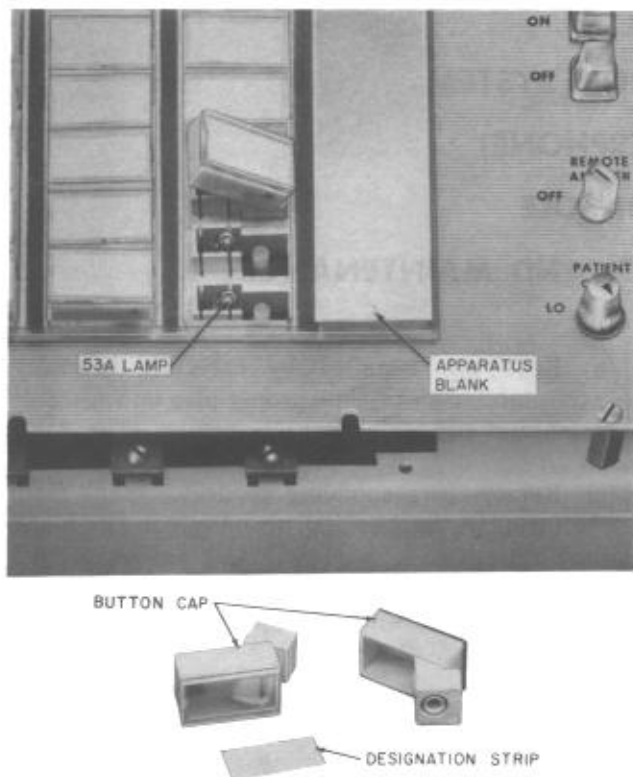

Fig. 2—Button Assembly
(c) Remove corresponding apparatus blank from faceplate by pushing up on apparatus blank until bottom edge is clear. Lift out on bottom of blank to remove. Any unused key spaces should be filled with an apparatus blank in the faceplate (Fig. 2).
(e) P-49K048 designation strips are supplied with the console when equipped with 645A or 645B keys. Each 645C or 645D key is shipped with P-23F056 designation strips. The two strips are not interchangeable. To install designation strips in the 645A or 645B keys (Fig. 2):
- (1) Tilt button cap on 645A or 645B keys by pushing down on right side of key while lifting on left side (Fig. 2).
- (2) On all keys, grasp white sides of button cap between thumb and forefinger directly over button plunger (right half of button). It may be necessary to partially depress buttons above and below one being removed.